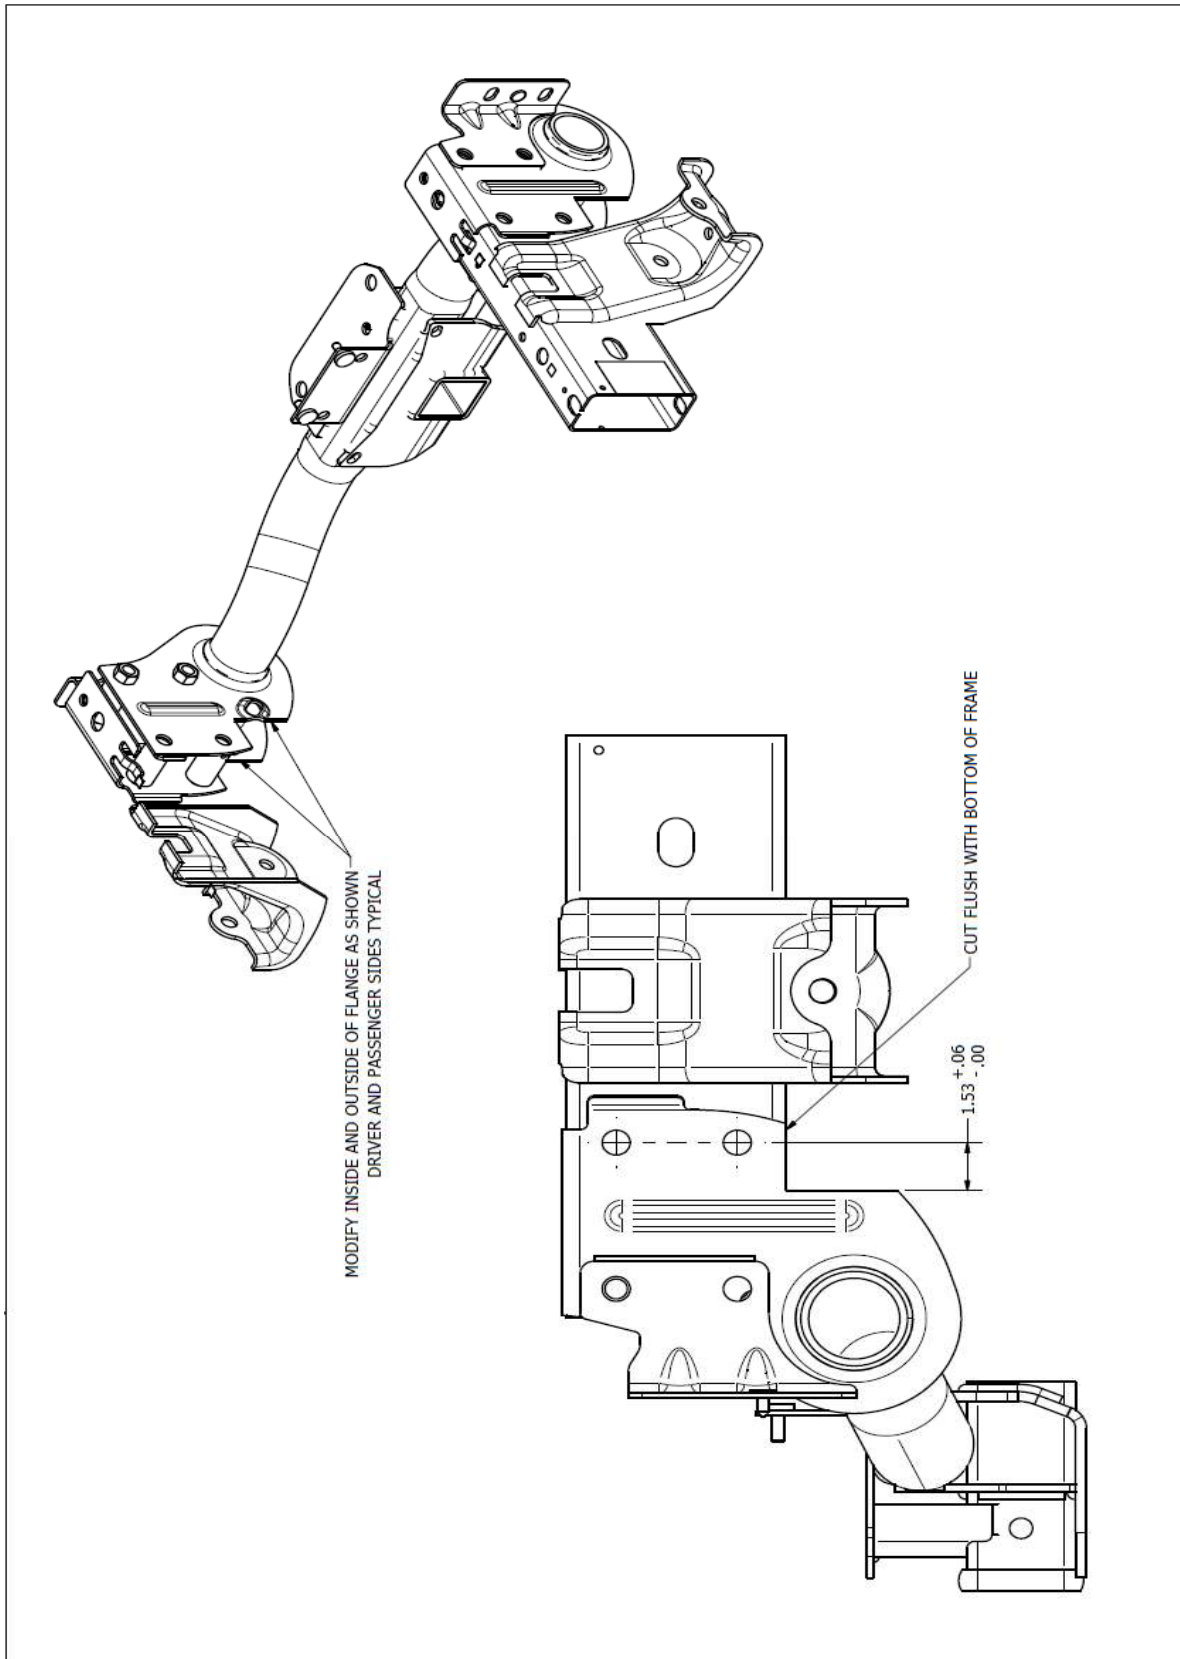

Figure 1: 3500 SB
5. Modify the tow hitch mounting brackets as shown. (Figure 1)